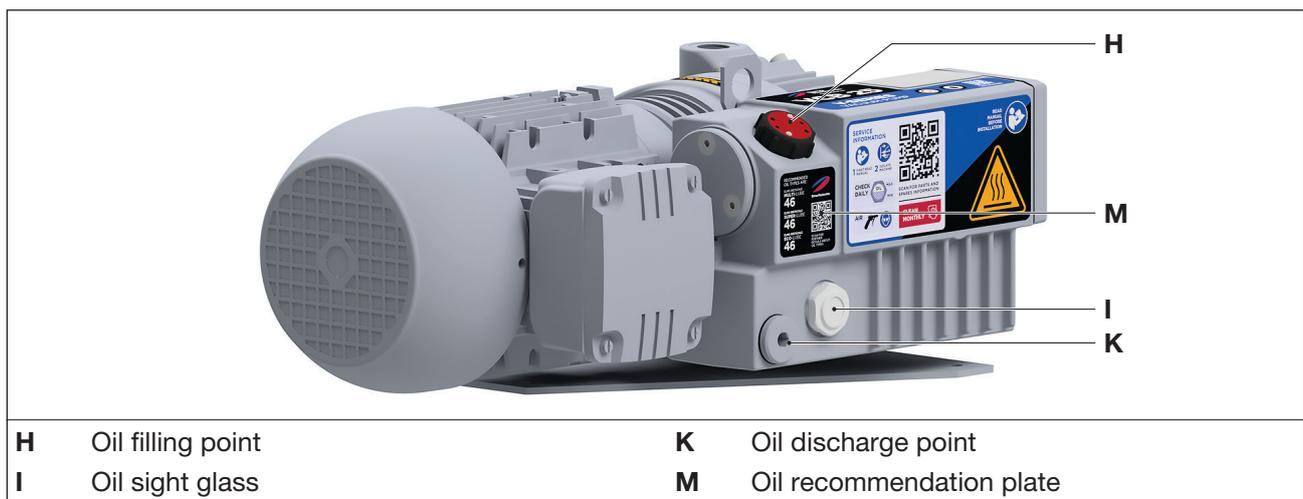

Fig. 6 Oil change
As operating agent, we recommend Elmo Rietschle oils, see oil recommendation plate (Fig. 6/M) as well as Tab. 3 on page 30:
- b) Open the cap of the oil filling point (Fig. 6/H) and refill oil until it reaches the upper edge of the sight glass (Fig. 6/I).
- b) Open the cap of the oil filling point (Fig. 6/H), open the oil discharge point (Fig. 6/K) and completely discharge the used oil.
- c) Close the oil discharge point (Fig. 6/K) and fill in new oil through the oil filling point (Fig. 6/H) up to the upper edge of the sight glass (Fig. 6/I).
- d) Check the oil level in the sight glasses (Fig. 6/I).